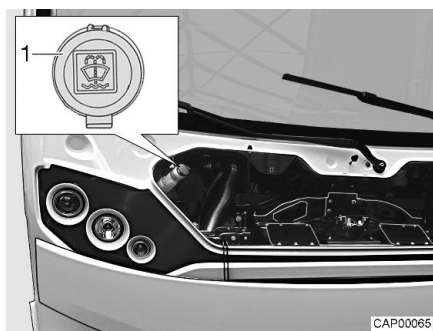

Fig. 7 Filler neck (windscreen washer fluid)
- Open the lid (Fig. 7, 1) on the filler neck of the washer fluid container.